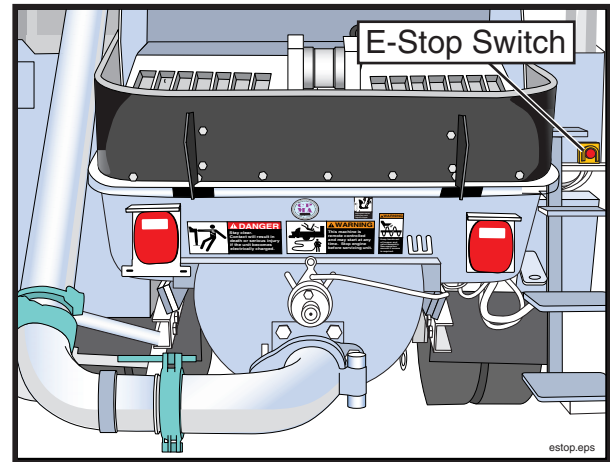

Figure 67
- 16.1 **⚠ WARNING** You must know how to stop the pump and boom. Have the operator show you the locations of the emergency stop switches (Figure 67).